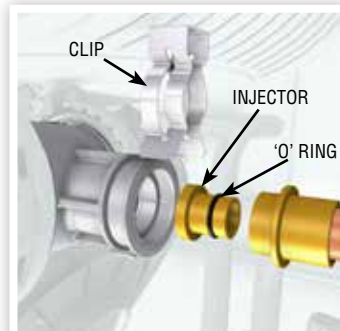

FIGURE 36. BURNER INJECTOR
- 18.2.2 Remove the gas pipe securing clip from venturi. See Figure 36.